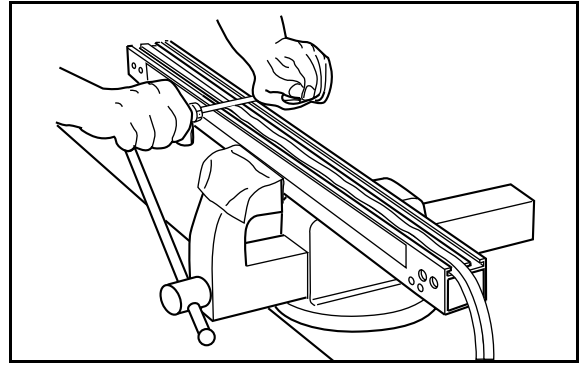

Fig. 34 Press silicon rubber/seal ledge
- 11 Press firmly into grooves/channels, chamfer each end of the silicone at approx. 45°. See Fig. 34.